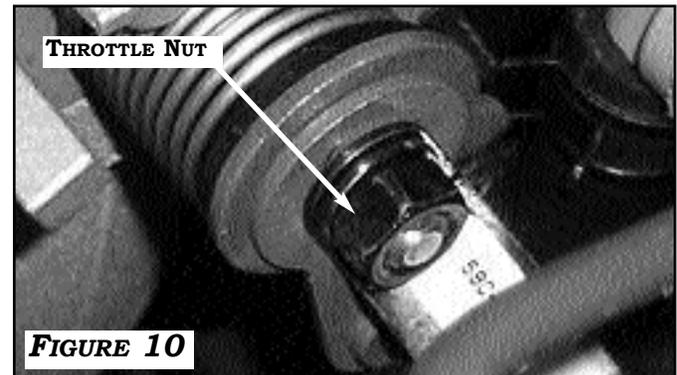

FIGURE 10
2. REMOVE VEHICLE THROTTLE WASHER AND NUT AND PLACE CRUISE THROTTLE BRACKET ON STUD. REINSTALL VEHICLE THROTTLE WASHER AND NUT. **FIGURE 10**